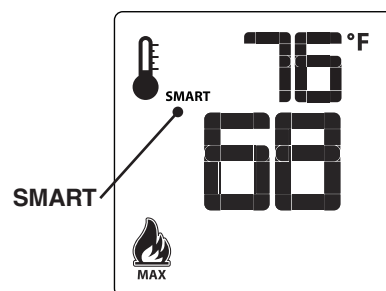

Fig. 43-5 Smart thermostat
- **Smart Thermostat (Fig. 43-5):** In this mode, all other functions except the flame height adjustment are allowed. Manual flame height adjustment is not allowed in this mode. The smart thermostat function adjusts the flame height in accordance to the difference between the set point temperature and the actual room temperature. As the room temperature gets closer to the set point temperature, the smart function automatically modulates the flame down.